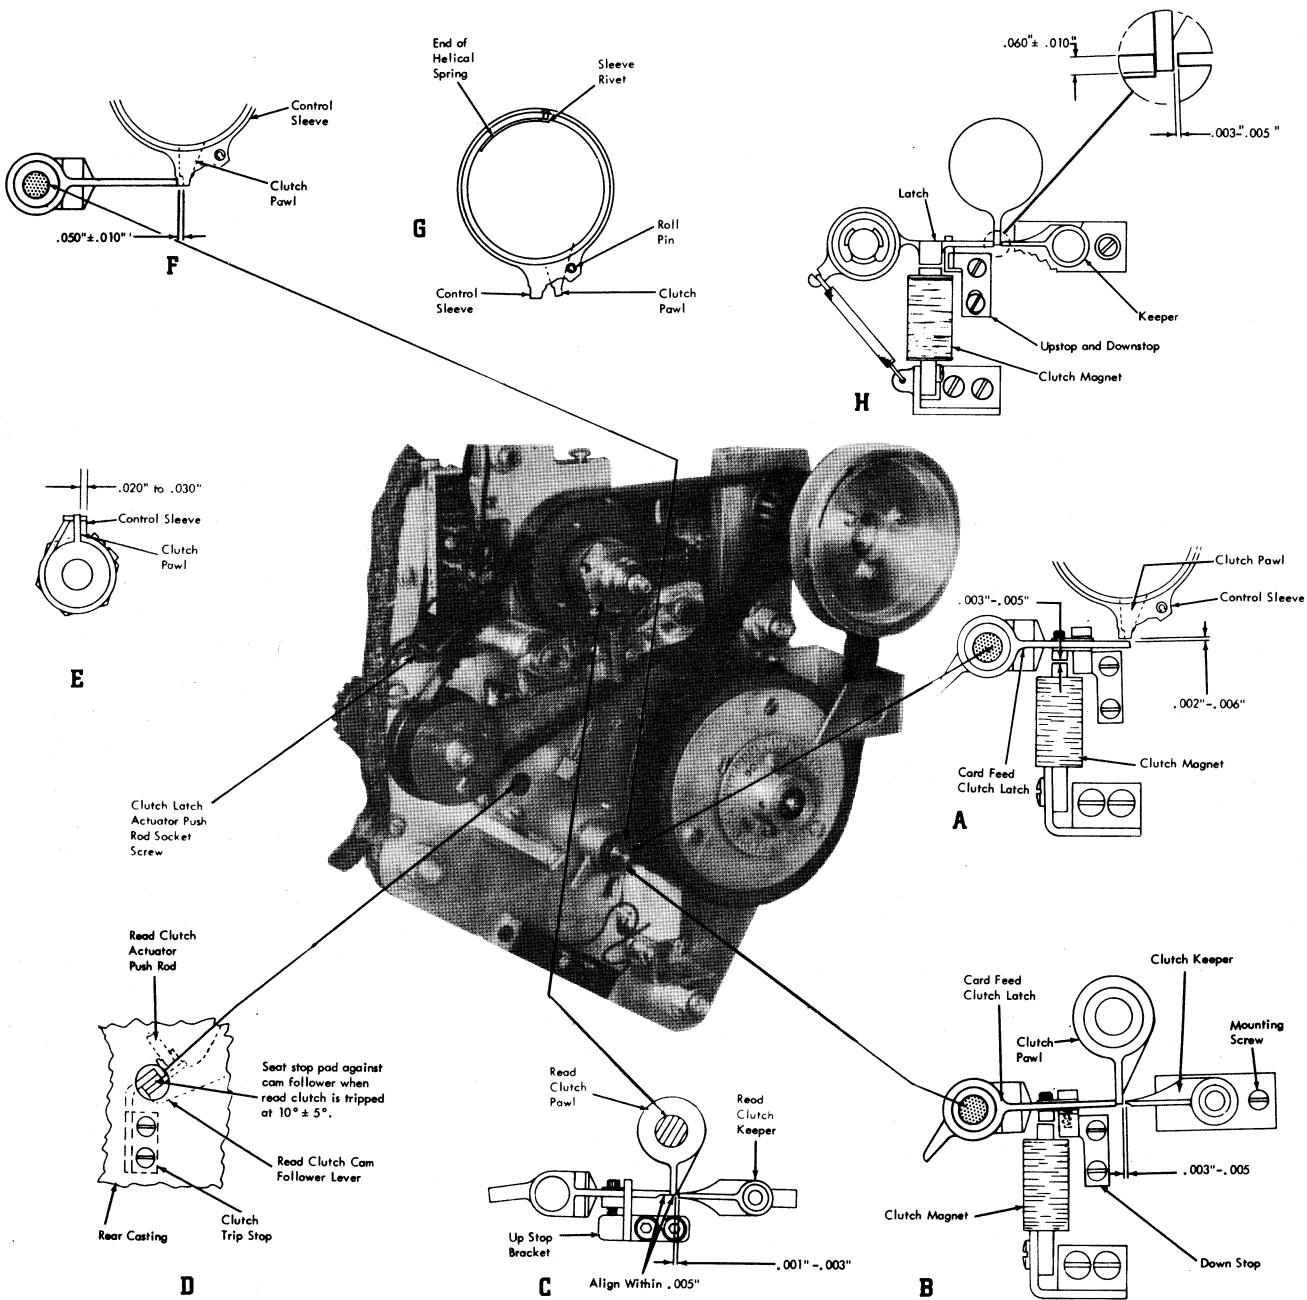

Figure 4-4. Card Feed Clutch and Read Clutch Adjustments
1. With clutch latch arm seated against down stop, adjust down stop, by means of the mounting screws, for a .002" to .006" clearance between clutch latch and clutch control sleeve arm (Figure 4-4, Insert A). When making this adjustment, downward travel of latch armature assembly should strike the downstop; not the magnet cores.
2. With clutch latch seated against down stop, position clutch magnet assembly for .003" to .005" clearance between magnet core and clutch latch arm (Figure 4-4, Insert A).
3. With card feed clutch latched, use mounting screw to position clutch keeper for .003" to .005" clearance between keeper and clutch pawl (Figure 4-4, Insert B).
slowly by hand to unwind the clutch spring (Figure 4-4, Insert F).
1. Position upstop for .060" ± .010" overlap of the clutch latch on the clutch pawl (Figure 4-4, Insert H).
5. Adjust clutch spring clamp for .050" ± .010" clearance between clutch pawl and end of the clutch latch. The CF clutch spring clamp is fastened to the clutch pawl by two screws. When making this adjustment, the arm on the control sleeve should be in contact with the end of the clutch latch, and the clutch keeper should be pivoted out of contact with the clutch pawl. The clutch input pulley (pulley hub if pulley is removed) should also be rotated slowly by hand to unwind the clutch spring (Figure 4-4, Insert F).
2. Slip control sleeve over helical spring and position sleeve so that roll pin follows and is in contact with clutch pawl (Figure 4-4, Insert G).
10. Run machine for about five minutes, then check the .050" clearance between clutch pawl and clutch latch (Figure 4-4, Insert F). Readjust if necessary.
1. With CF and read clutches latched, position read clutch up-stop bracket so end of the shock mounted section of the latch is aligned within .005" to bottom surface of clutch pawl (Figure 4-4, Insert C).
- mounting nut, to obtain a .001" to .003" clearance between keeper and clutch pawl (Figure 4-4, Insert C).
3. With CF and read clutches latched, turn read clutch latch actuator push rod socket screw until read clutch latch just starts to move, then back off screw 1/2 turn. Trip CF clutch and turn CF clutch shaft by hand. Observe time on CF index when read clutch engages. It should be $10^\circ \pm 5^\circ$. If it is not, recheck adjustment No. 1. If adjustment No. 1 checks remake clutch push rod socket screw adjustment (Figure 4-4, Insert D).
4. Adjust the read clutch cam follower stop pad to seat against read clutch cam follower lever when read clutch is tripped at $10^\circ \pm 5^\circ$. The lever should clear the stop pad at $60^\circ \pm 5^\circ$ (Figure 4-4, Insert D).
5. Trip feed clutch and crank until clutch pawl is in an upward position (Figure 4-4, Insert E).
6. Adjust clutch spring clamp so distance between edge of control sleeve and clutch pawl is .020" to .030" (Figure 4-4, Insert E).